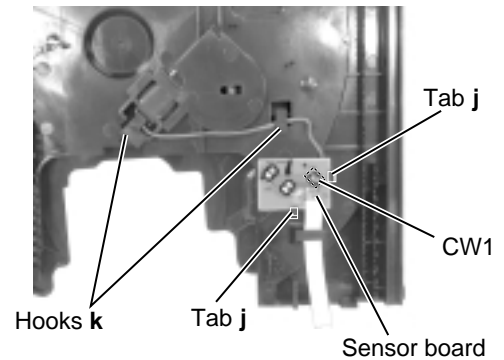

Fig.31
■ Removing the sensor board & the tray turn table motor assembly (See Fig.31 to 33)